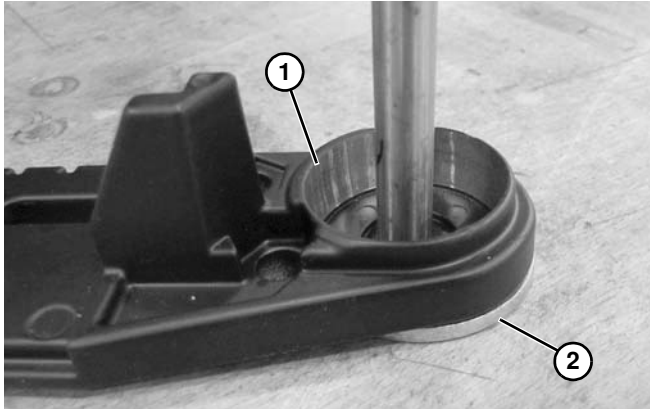

Figure 82
2. Set tail plate (**Figure 82, item 1**) flat side down over washer (**Figure 82, item 2**) or hole in workbench that has a minimum diameter of 16 mm.